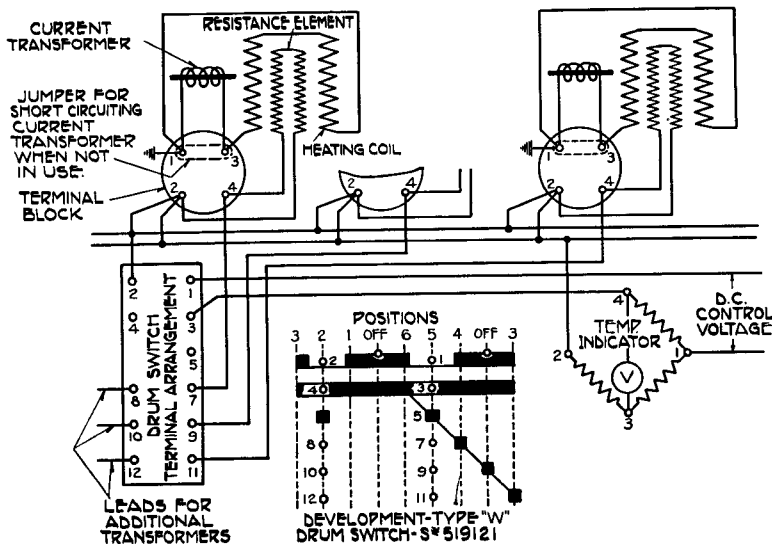

FIG. 2—WIRING DIAGRAM
Whenever one indicator serves more than one transformer, the connections are made through a drum switch as shown in Fig. 2.
6. Mount the temperature indicator and resistance on the switchboard and connect to the terminal box on the transformer as shown in Fig. 2 using 19-0226 (9700 C.M.) Rubber Insulated Weather Proof Cable, or larger for distances not exceeding 500 feet between transformer and switchboard.